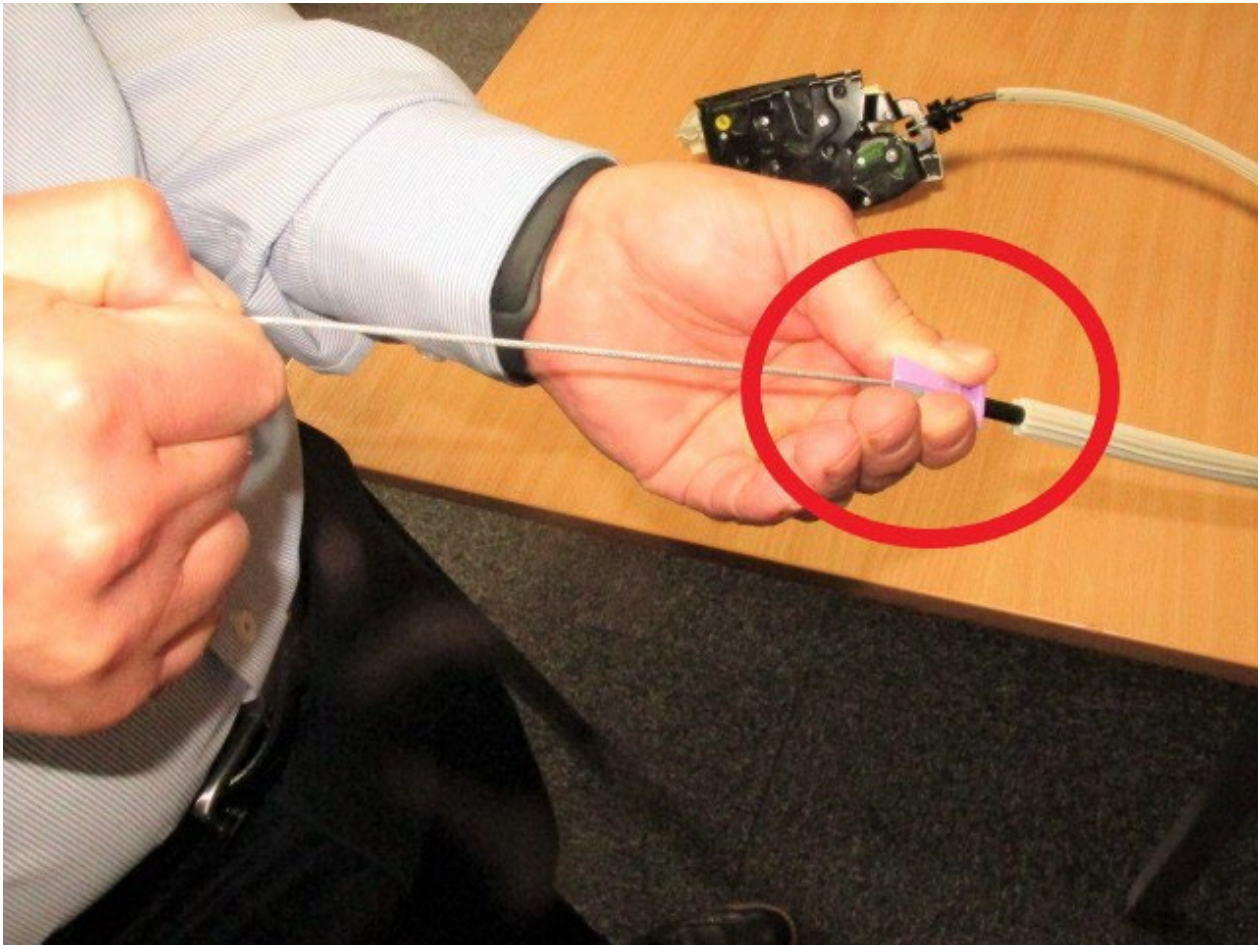

Figure 4
4) Referring to Figure 4 (Circle) - Hold the cable at the location shown (end fitting)